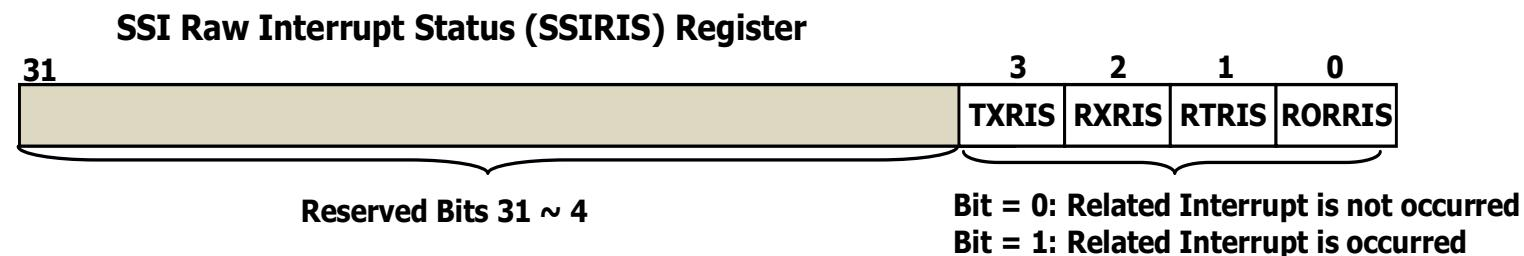

Figure 8.17 The bit field and value in SSIRIS register.
- Figure 8.17 shows the bit field and functions of the **SSIRIS** register. Table 8.8 (next slide) shows the bit value and its function of this register.